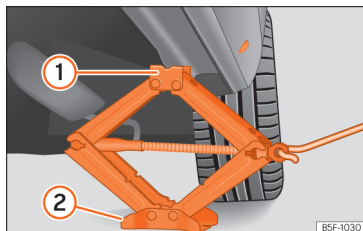

Fig. 193 Crossbar: mounting the jack on the vehicle.
- Turn the jack crank handle, located below the strut support point, to raise it until the tab ① >>> Fig. 193 is below the housing that is provided.
- Align the jack so that the tab ① "grips" onto the housing provided on the cross member and the mobile base ② is resting on the ground. The base plate ② should fall vertically with respect to the support point ①.